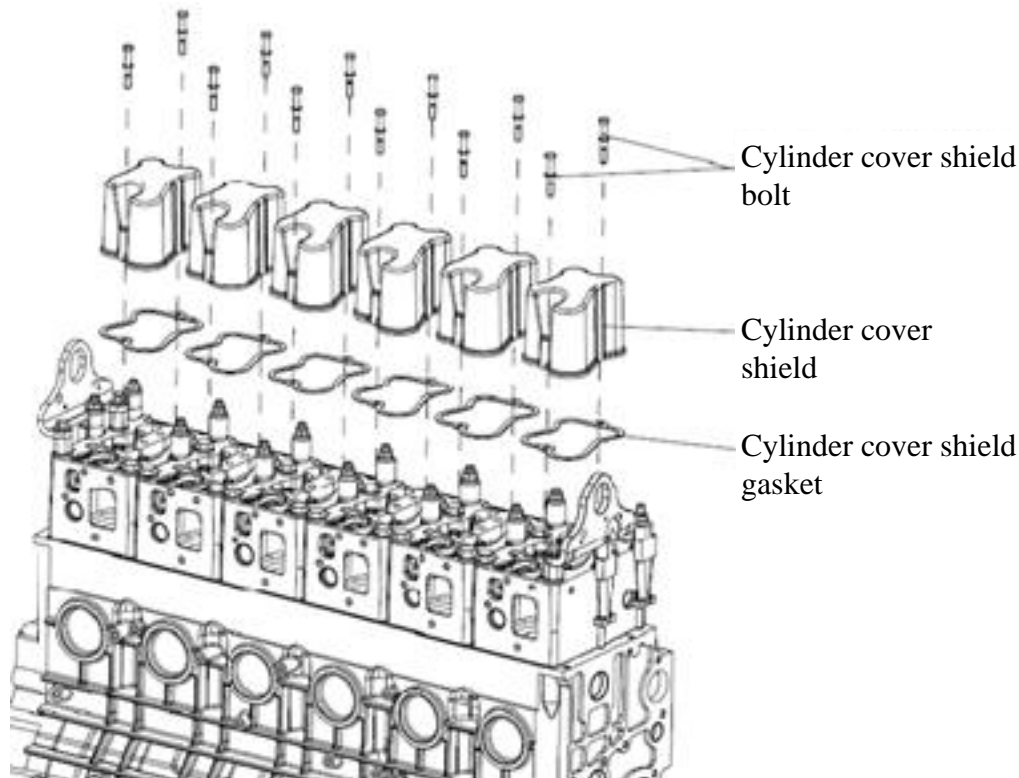

Fig. 4-3 Exploded view of cylinder cover shield
- (1) Screw off cylinder cover shield bolts orderly;
- (2) Pull the shield vertically up to take it and its gaskets down. As shown in Fig. 4-3.